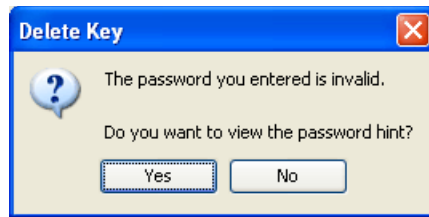

Figure 12-62 Request password hint
2. On the panel in Figure 12-62, click **Yes** to request the hint.